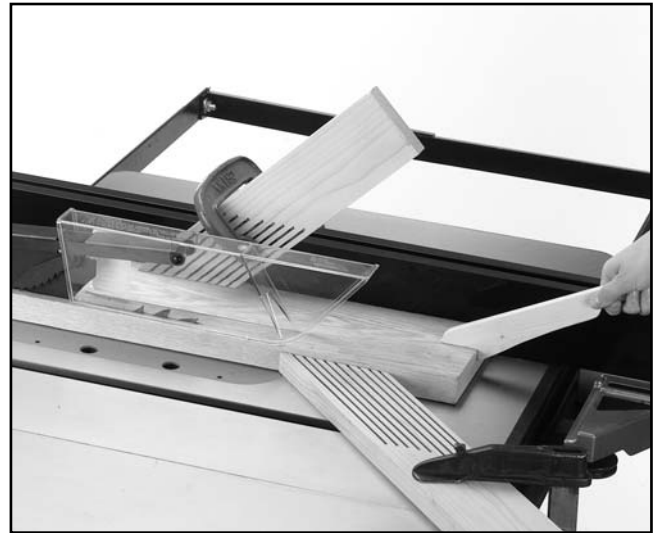

Figure 32. Ripping operation.
8. Using a push stick, feed the workpiece through the saw blade as shown in **Figure 32**, until the workpiece is completely past the saw blade. *When a small width is to be ripped and a push stick cannot be safely put between the blade and rip fence, rip a larger piece to obtain the desired piece.*